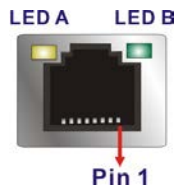

Figure 3-31: Ethernet Connector
- CN Pinouts:** See **Figure 3-31** and **Table 3-32**